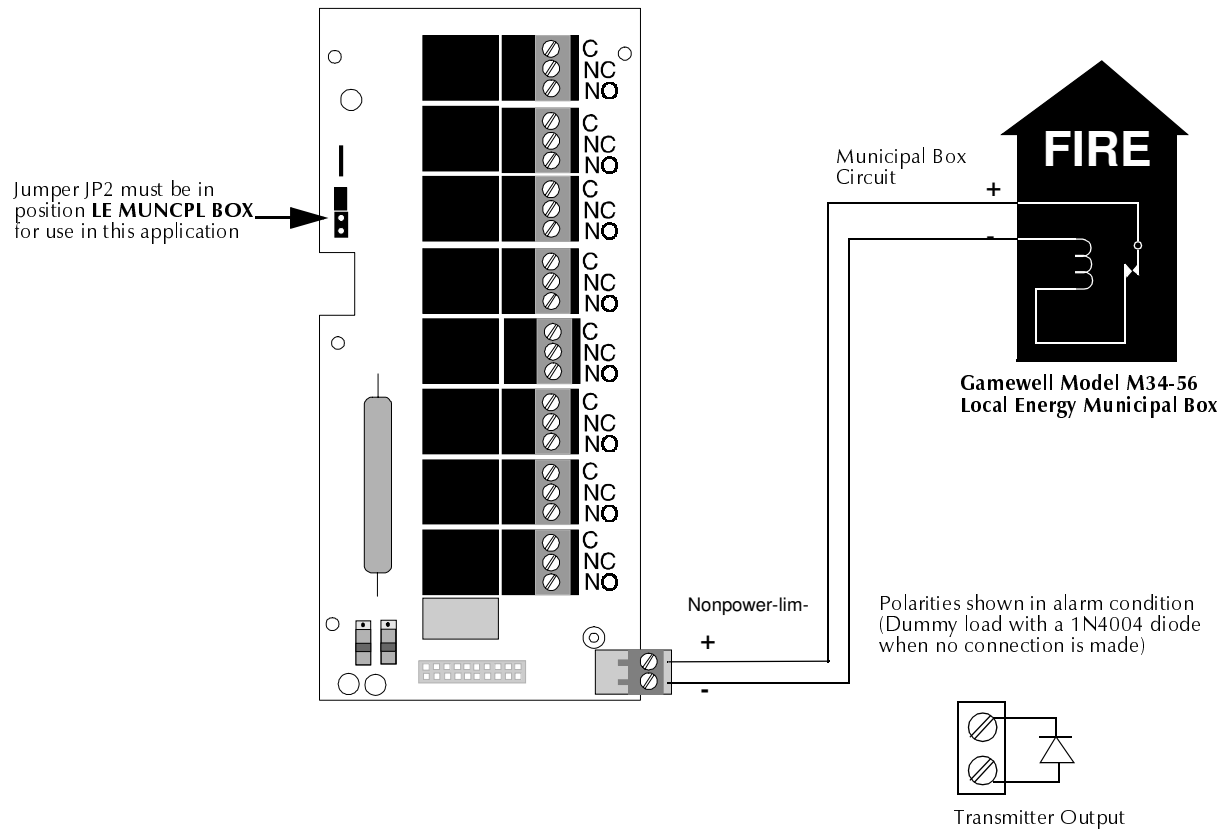

Figure 52 Municipal Box Connected to Fire•Lite RTM-8F Relay Transmitter Module
**NFPA 72 Auxiliary Fire Alarm System** Fire•Lite RTM-8F Relay/Transmitter Module for connection to a compatible listed Local Energy Municipal Box. This unit must be installed as outlined in Figure 52, “Municipal Box Connected to Fire•Lite RTM-8F Relay Transmitter Module,” on page 126.